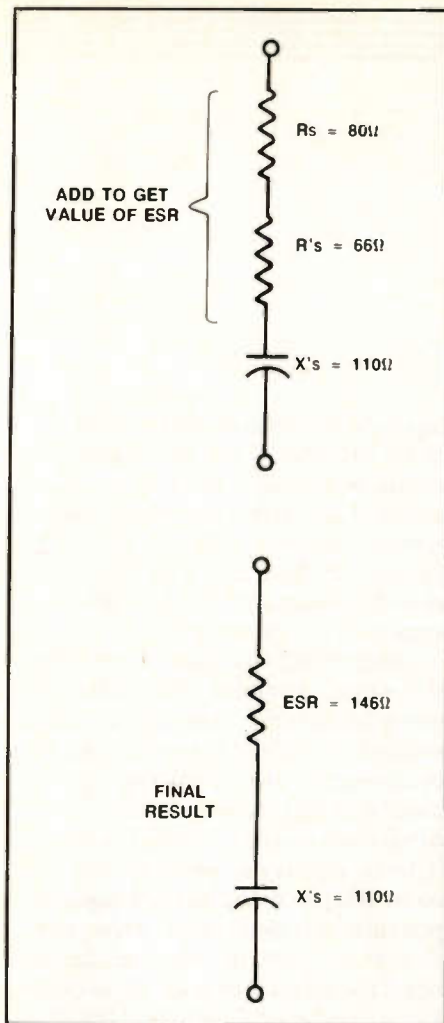

Figure 8
Step 8 - Replace the parallel RC circuit in Figure 7(a) with the equivalent series circuit as shown in Figure 8.
To calculate the equivalent series resistance of the capacitor you have to add $R's$ and R_s . Figure 8 shows the final result.